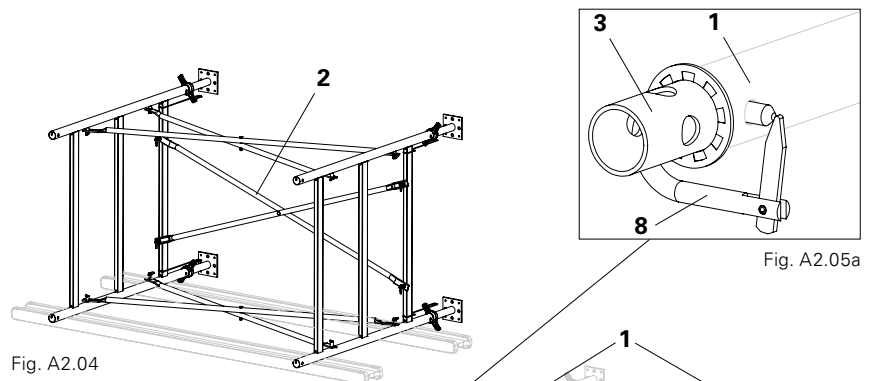

Fig. A2.04
2. Tip the base sideways onto the timbers (or girders). (Fig. A2.04)